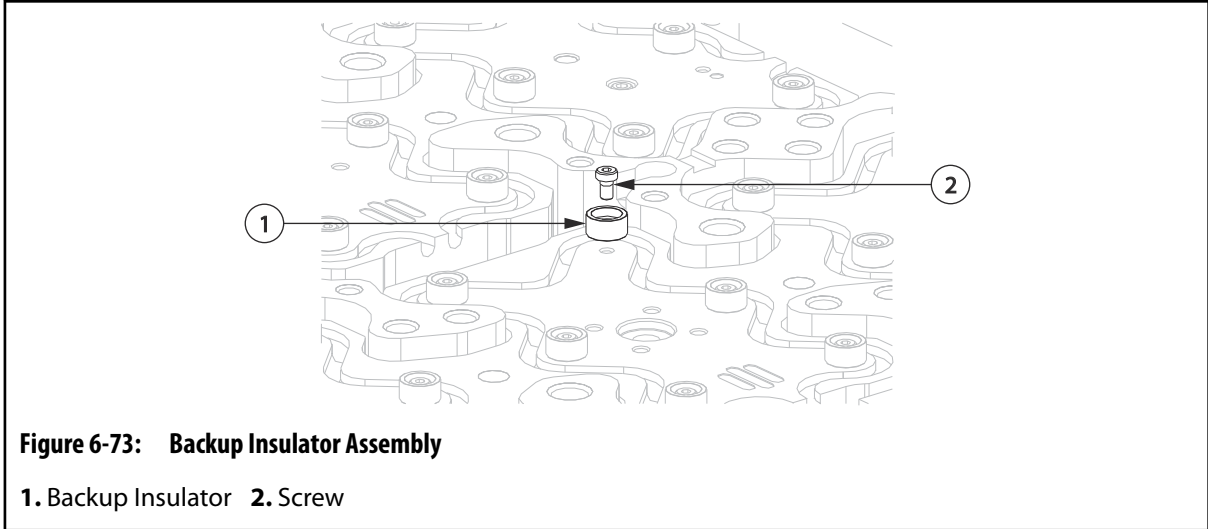

Figure 6-73: Backup Insulator Assembly
9. Install the backup insulators on the manifold. Refer to Figure 6-73 for more information.